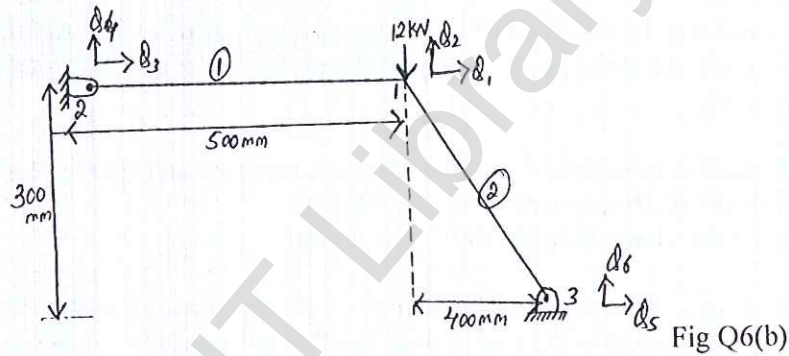

Fig Q6(b)
- b. Find the nodal displacement, stress and reaction of truss element shown in the Fig Q6(b). (12 Marks)